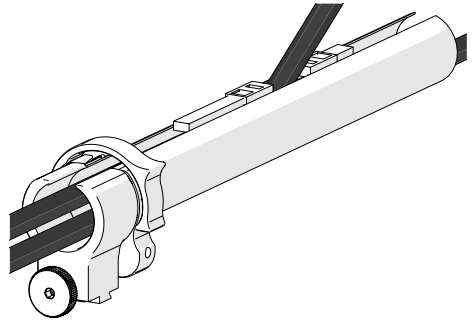

Fig. 63 - Flexibility
4. When necessary, the two zippers may be opened to allow cables to exit the tube anywhere between the ends (Fig. 63).